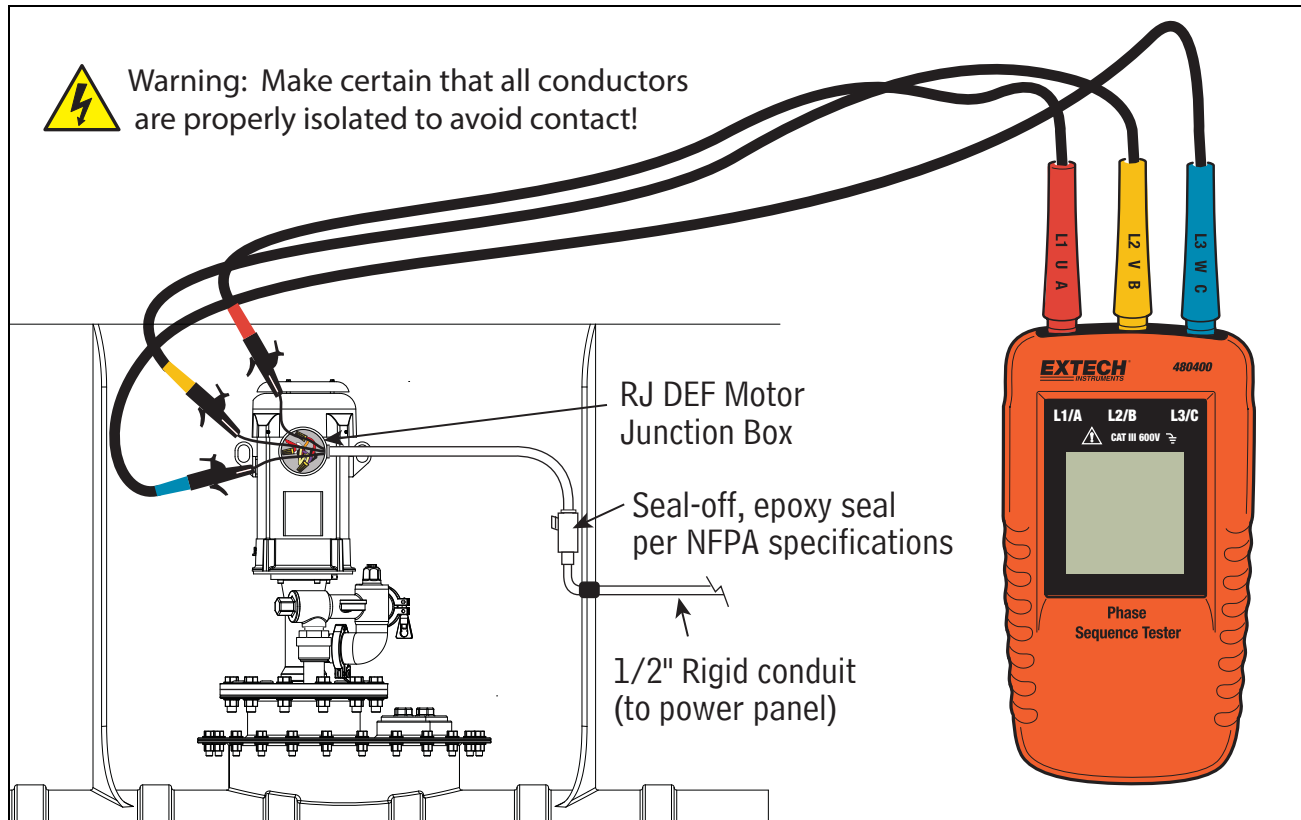

Figure 18. Connecting Extech Model 480400 Phase Sequence Tester To Incoming Pump Power Wiring
3. Connect the three Phase Sequence Tester lead alligator clips to the three incoming RJ DEF motor power wires (Ref. Figure 18).